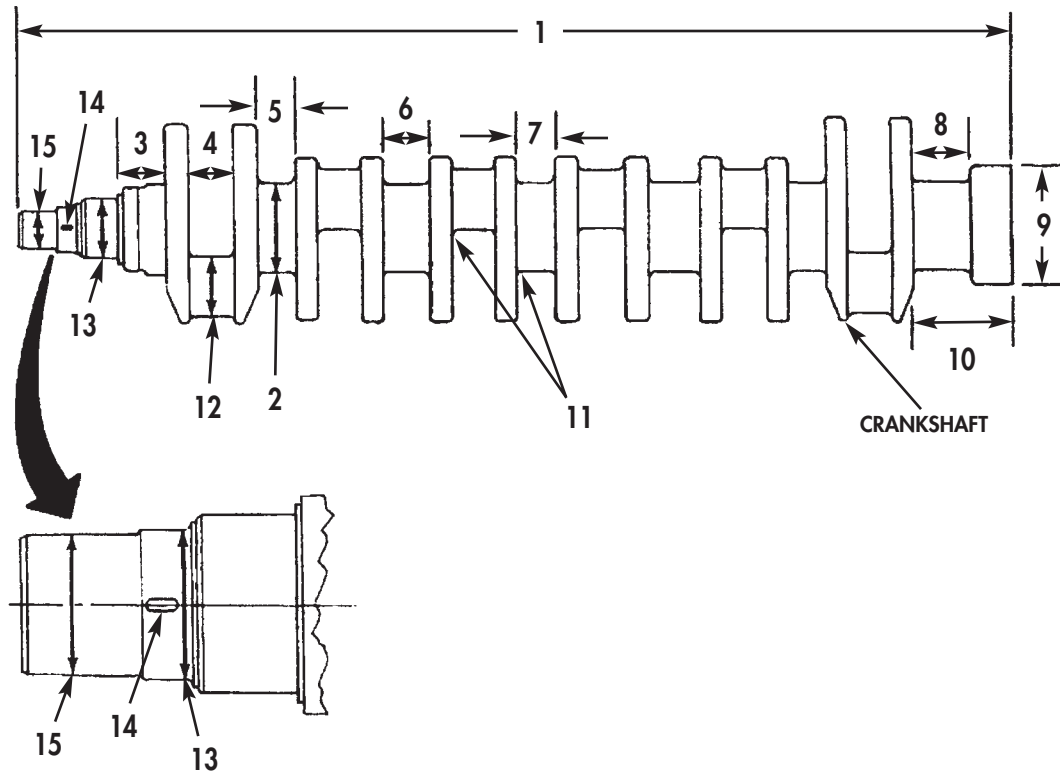

Figure 3. Crankshaft Measurements.
22. Using vernier caliper and micrometer, measure crankshaft dimensions shown in Figure 3. Compare measurements to specifications in Table 1. Wear greater than 0.002 in. (0.051 mm), or greater than 0.003 in. (0.076 mm) for item 8, requires regrinding.